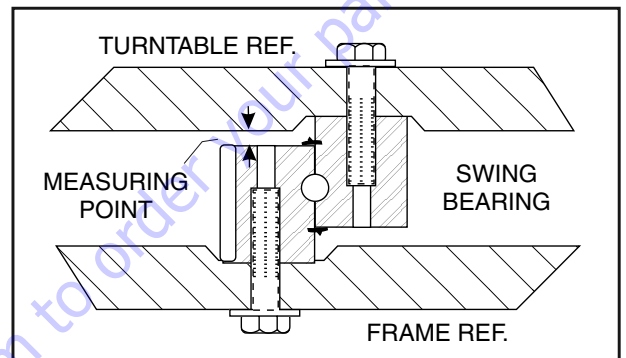
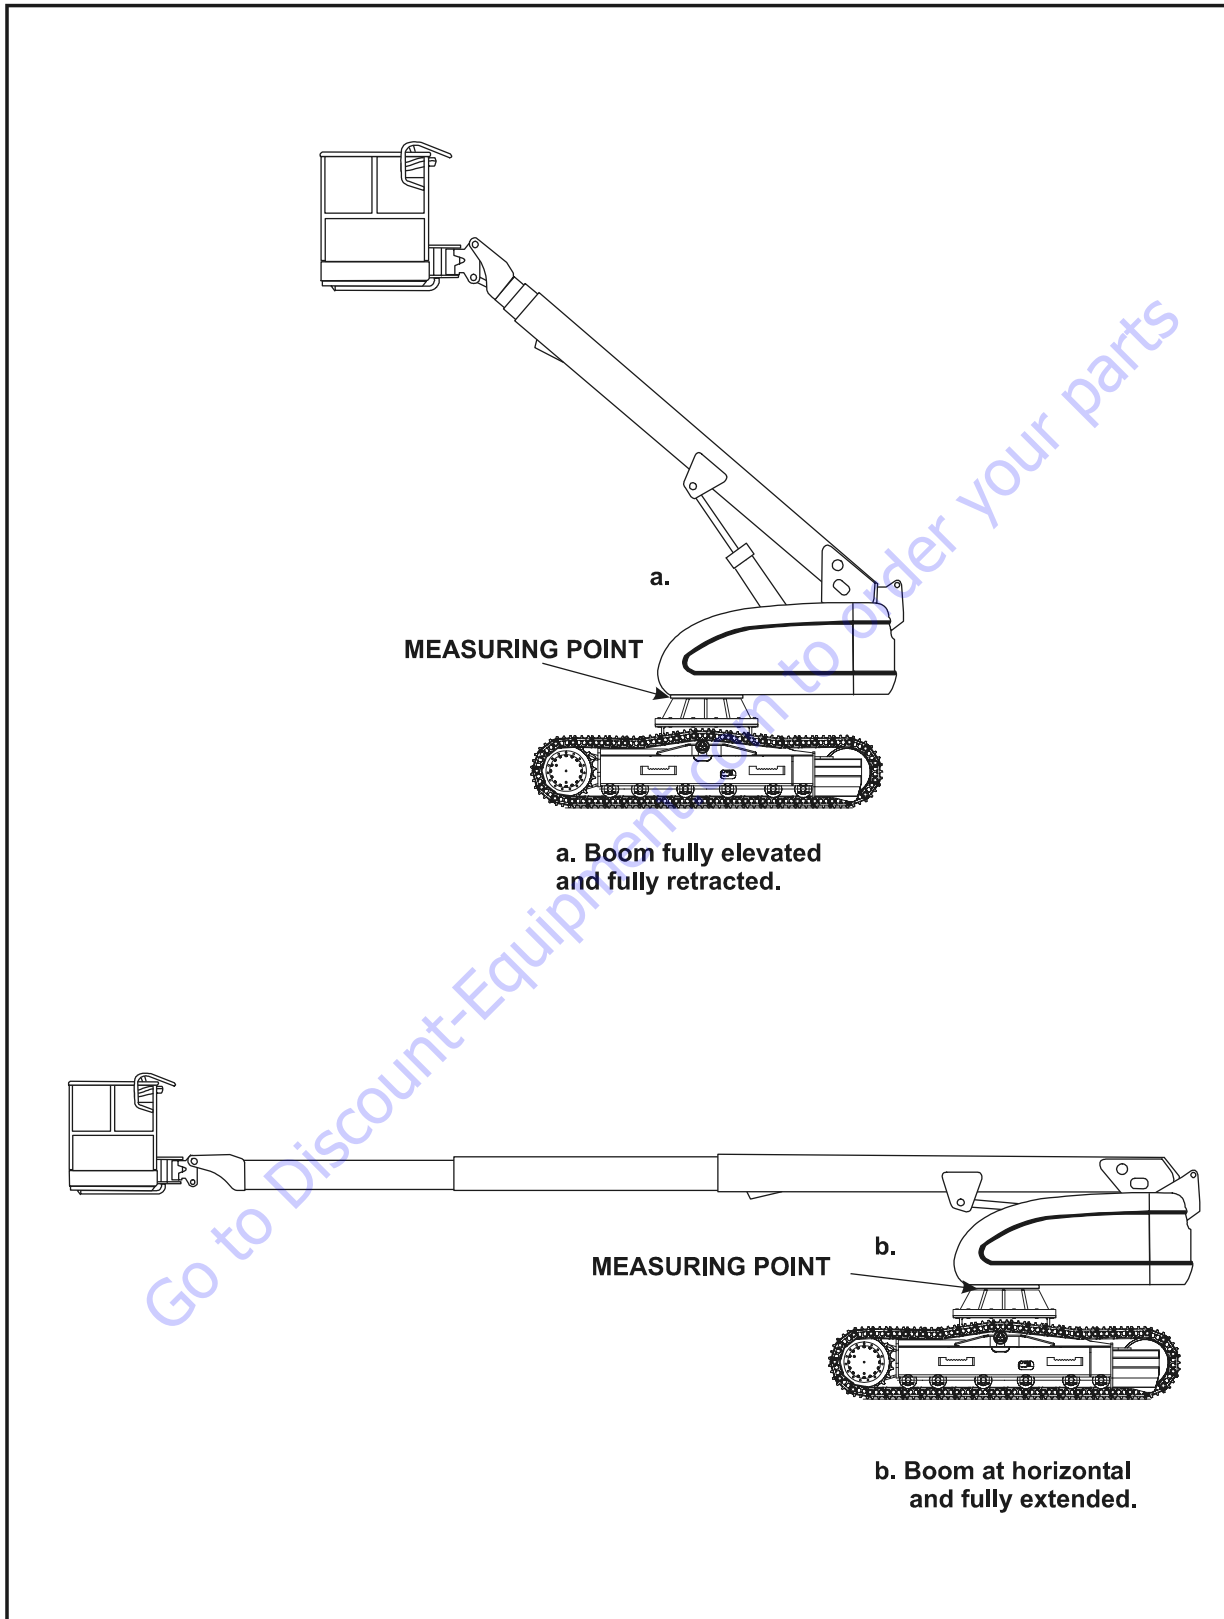

Figure 3-5. Swing Bearing Tolerance Measuring Point
Figure 3-6. Swing Bearing Tolerance Boom Placement
1. From the underside of the machine, at rear center, with the boom fully elevated and fully retracted, as shown in A, Figure 3-6., Swing Bearing Tolerance Boom Placement, using a magnetic base dial indicator, measure and record the distance between the swing bearing and turntable. (See Figure 3-5., Swing Bearing Tolerance Measuring Point.)
2. At the same point, with the boom at horizontal and fully extended, and the tower boom fully elevated as shown in (Figure 3-6., Swing Bearing Tolerance Boom Placement) B, using a magnetic base dial indicator, measure and record the distance between the swing bearing and turntable. (See Figure 3-5., Swing Bearing Tolerance Measuring Point.)